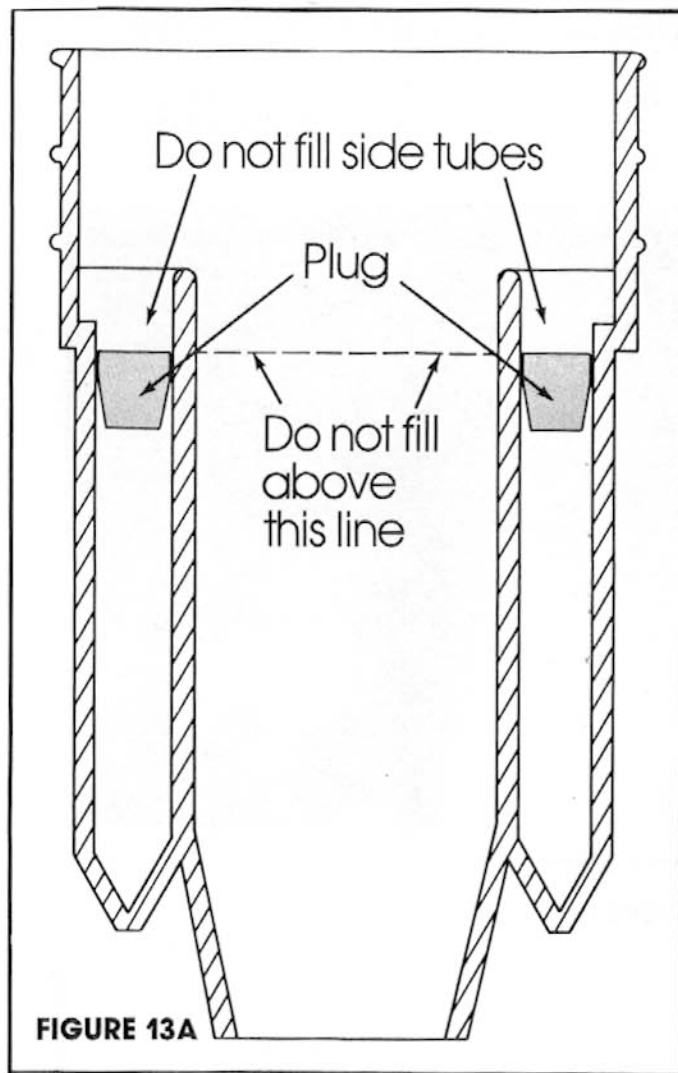

**FIGURE 12**
- 2.02** Apply a layer of sealant around the base. Now apply two half-lapped layers of vinyl tape over the sealant as shown. (Fig. 12) Make certain that all the tabs in the base have been covered.